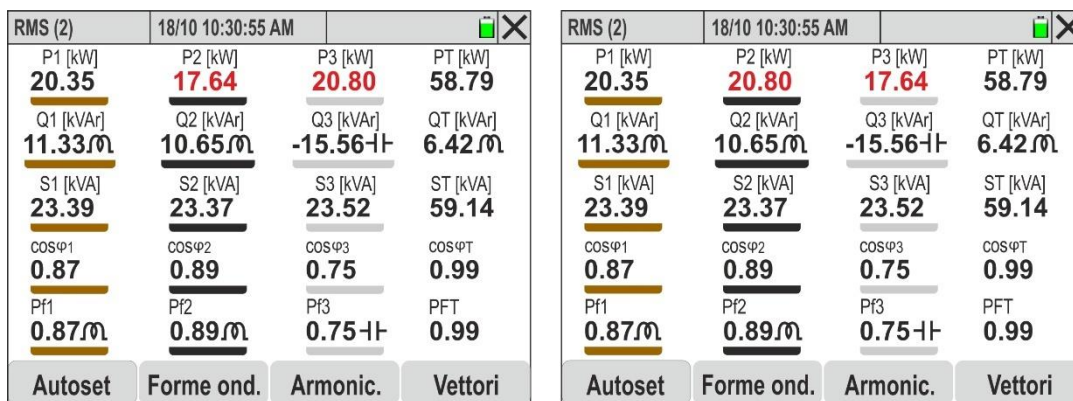

Fig. 73: Effect of the Autoset function in the Multimeter section (clamps reversed)
9. The Fig. 73 – left part shows the error condition described in point 8 where the active powers P2 and P3 are reversed (**the values shown in red are only to highlight the problem**). After the Autoset has been carried out, the new state appears as shown in Fig. 73 -right side, where the values of P2 and P3 have returned to the expected values **without any intervention by the operator**